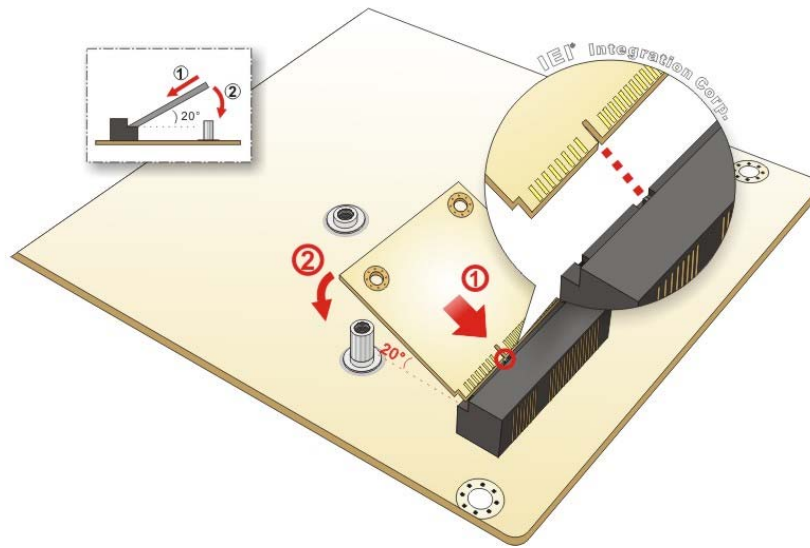

Figure 4-7: Inserting the Half-size PCIe Mini Card into the Slot at an Angle
Step 4: Line up the notch on the card with the notch on the slot. Slide the PCIe Mini card into the slot at an angle of about 20° (**Figure 4-7**).